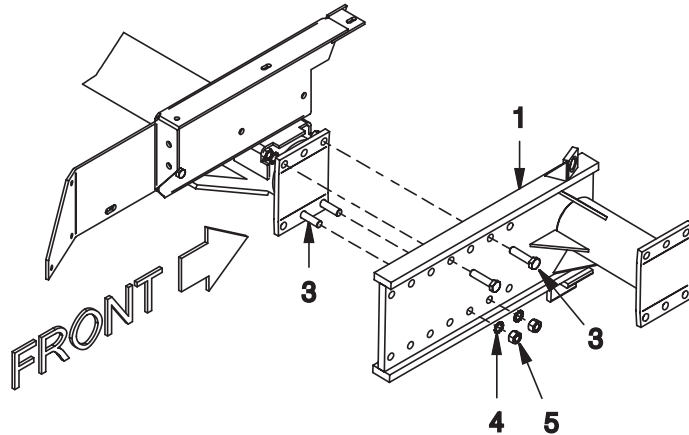

Figure 2-3-1 - Place Spacer and Tandem Wheel Plate
A. Place (2) Item 3 Bolts through the axle and (2) through 901626 Tandem Plate as shown in Figure 2-3-1. Use star washers and nuts to secure the tandem plate to the axle. Torque all nuts and bolts as per torque chart on page 2-3-1.